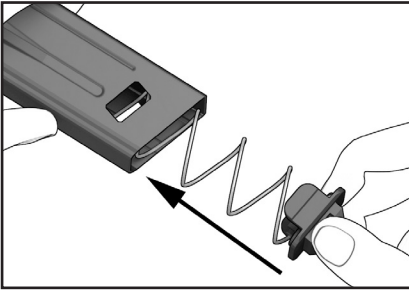

Figure 43
2. Insert the follower and magazine spring into the magazine housing as depicted in Figure 43.